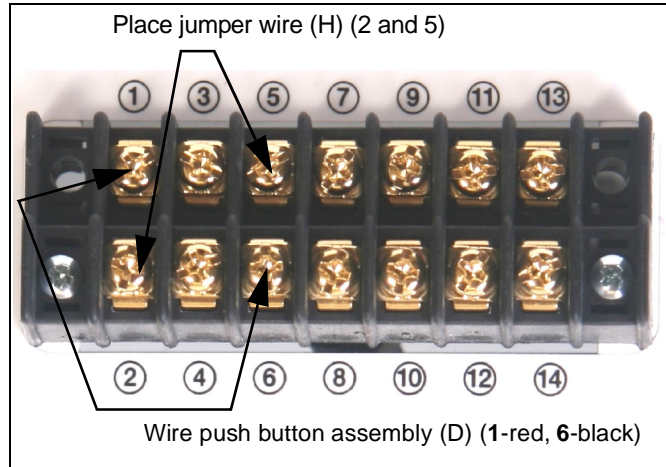

Figure 3
5. Place the jumper wire (H) on the external wiring terminal contacts labeled 2 and 5, and wire the push button assembly (D) to contacts 1 (red) and 6 (black). (See Figure 3).
2. Remove the jumper wire and supplied push button wiring (previously installed in the **Pre-Test Lift before Installation** section) from the external terminal block. (See Figure 3)